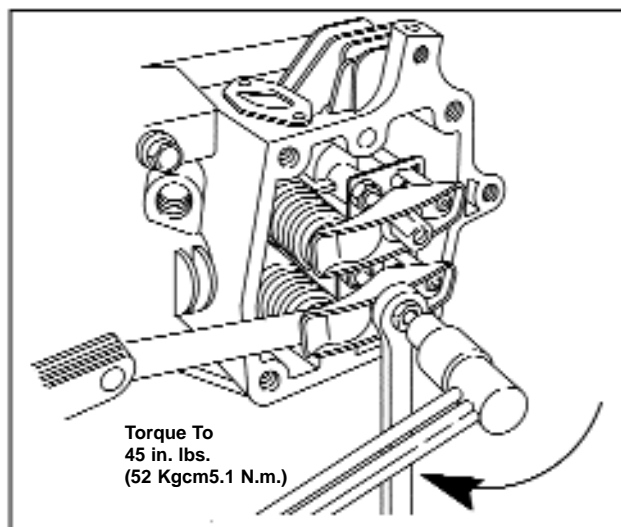

Figure 99 - Adjusting Valve Clearance
5. Adjust as required, Figure 99.